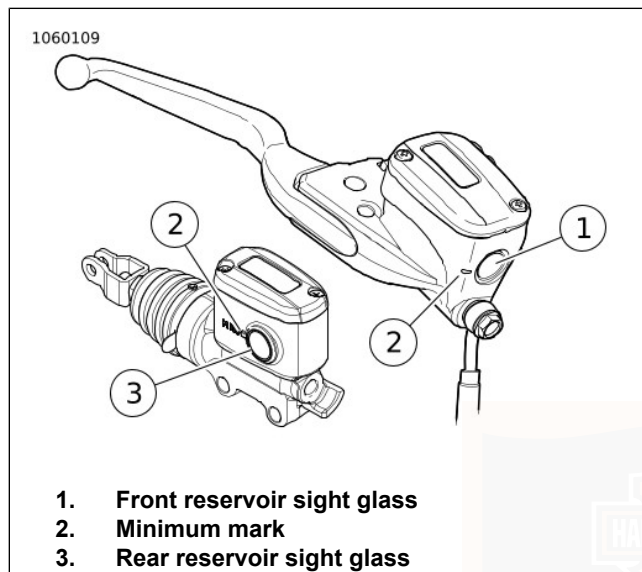

Figure 64. Brake Fluid Reservoirs
2. **Front:** See Figure 64. Check level in front reservoir sight glass. Level must be above minimum mark on side of reservoir.
3. **Rear:** See Figure 64. Check level on side of rear brake reservoir. Level must be above minimum mark on side of reservoir.